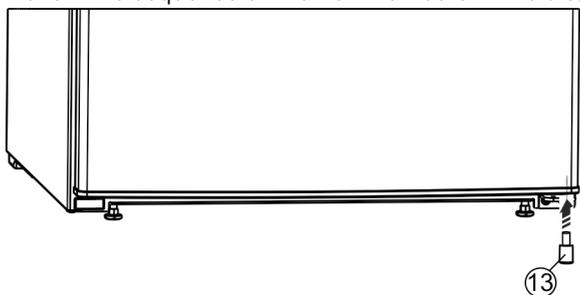

Fig. 7
► Insert the spacer Fig. 7 (13) back under the right-hand side of the door, as it is important for the stability of the appliance.